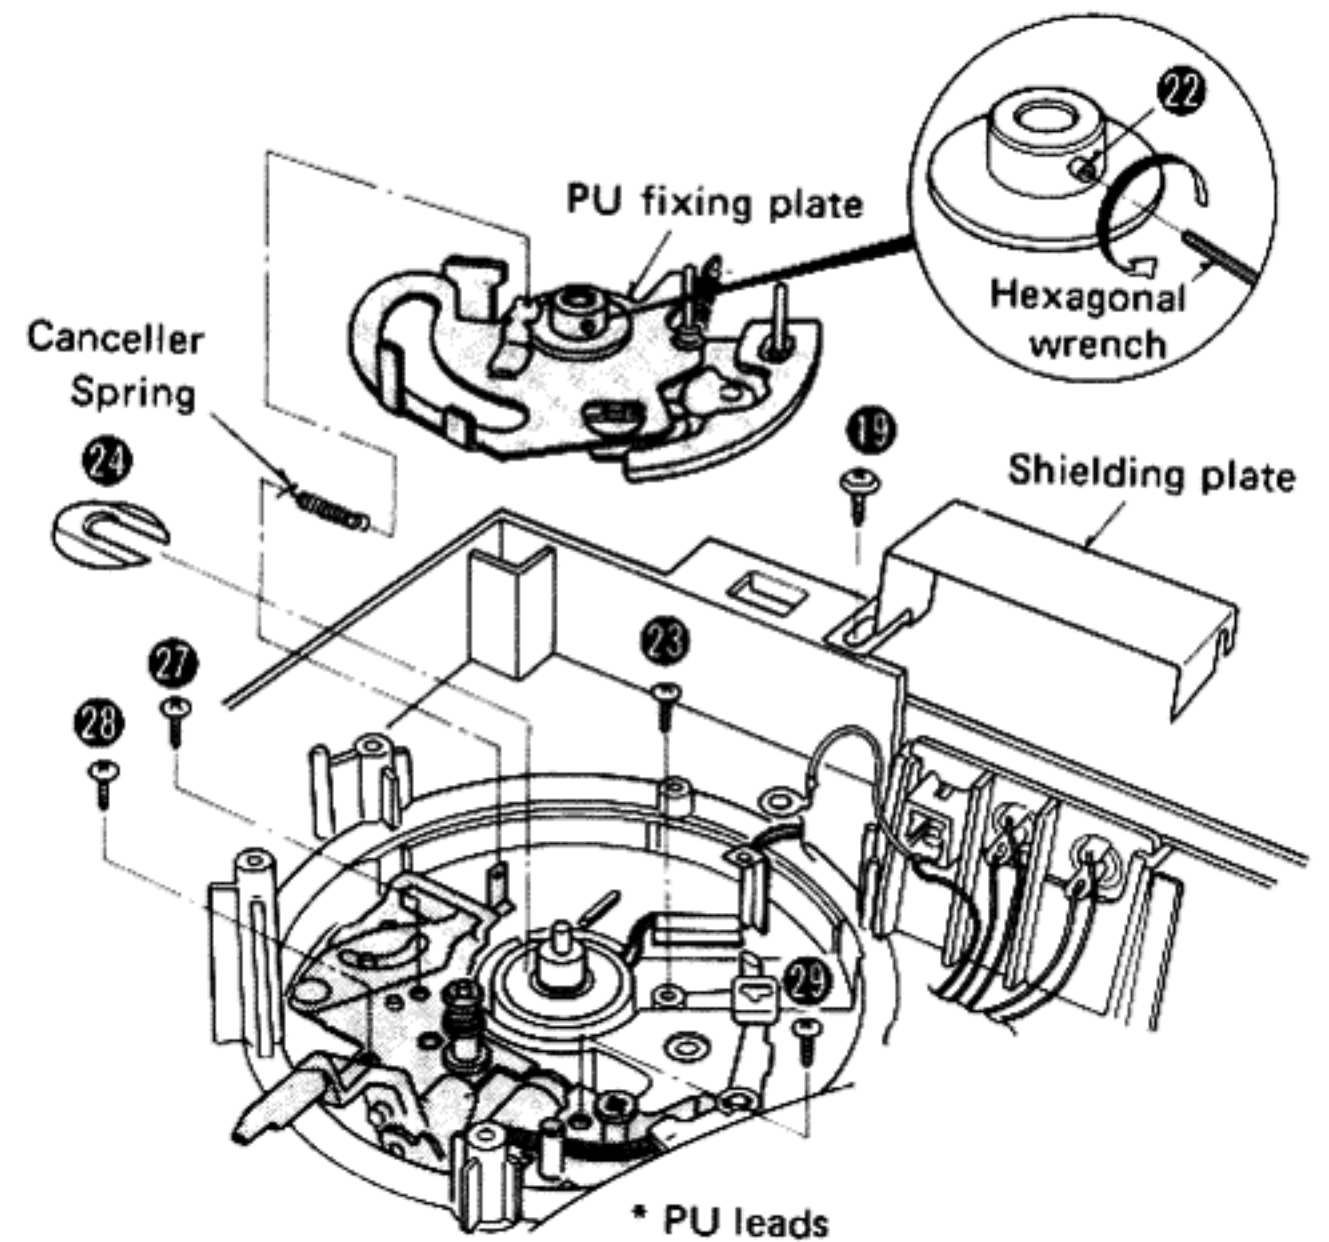

Fig. 6
2. Remove the canceller spring from the PU fixing plate, and loosen the screw 22 with a hexagonal wrench. (Fig. 6)
4. Remove the PU-lead wire arranging plate setscrew (Fig. 6: 23) and stopper (Fig. 6: 24). Then the tonearm can be removed.
4. Remove the 3 setscrews (Fig. 6: 27~28) of the lift base.